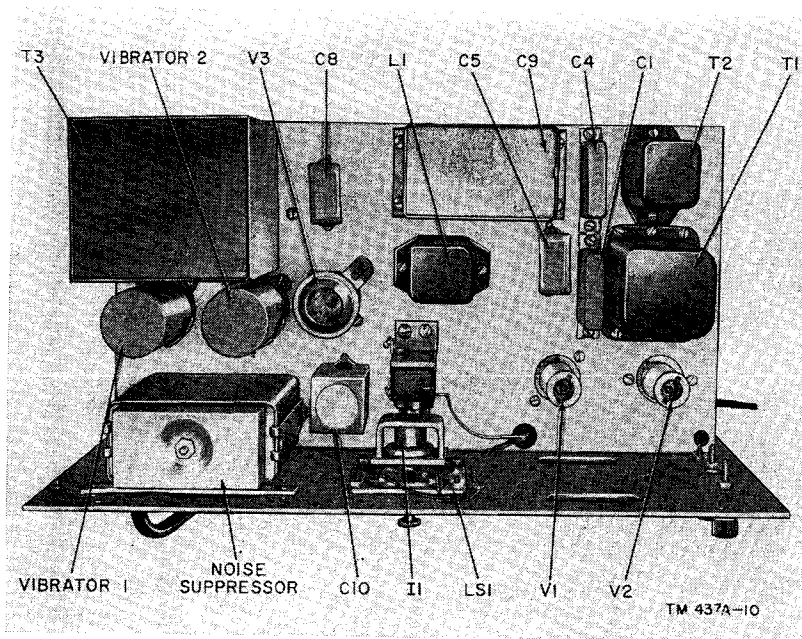

Figure 12. Top internal view of control unit.
(fig. 12)
a. *Inspecting.* Be sure that the labels on the tubes correspond to the tube-socket numbers (fig. 12). Inspect tubes for cracked bases and loose or cracked envelopes. Check vibrators and tubes for broken prongs. Inspect the signal lamp for burned base or broken filament. Check fuses for charring.
b. *Cleaning.* Clean vacuum tubes and vibrators with a clean cloth moistened with solvent (SD). If necessary, clean the prongs of tubes and vibrators with crocus cloth.
- (1) *Vacuum tubes.* Use Electron Tube Test Set TV-2/U to test vacuum tubes for improper emission, leakage, and short circuits. If a tube tester is not available, check doubtful tubes in a code training set known to be in good operating condition.
- (2) *Signal lamp and fuses.* Check the lamp and fuses by substituting spares or by continuity checking with an ohmmeter.